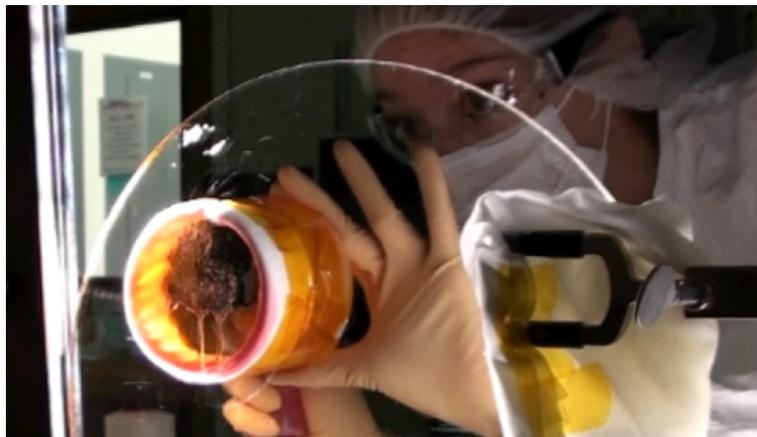

Figure 7. Overspray at 12 o'clock position on prototype cone
- 4) **Double-check wipe ends meet at the 12 o'clock position.** As shown in Figure 7, FC spray can escape at the point where the ends of the wipe meet. Overspray is prevented by a good seal, and placing the end of the wipes in an area that encounters less spray. More FC will accumulate at the 6 o'clock position as the spray runs down the optic.